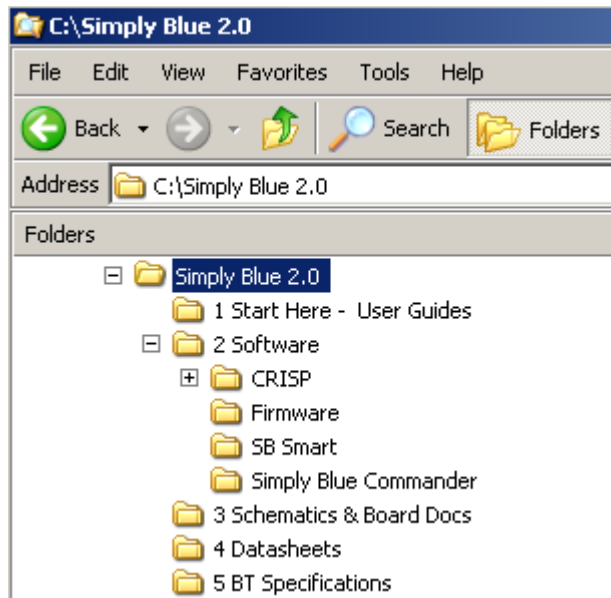

Figure 1-3. Simply Blue Default Directory
- 4) Click the *Install Software* button. Reference Figure 1-3 on page 5. This will install CRISP, documentation, SB Smart and Simply Blue Commander. Please browse the CD.